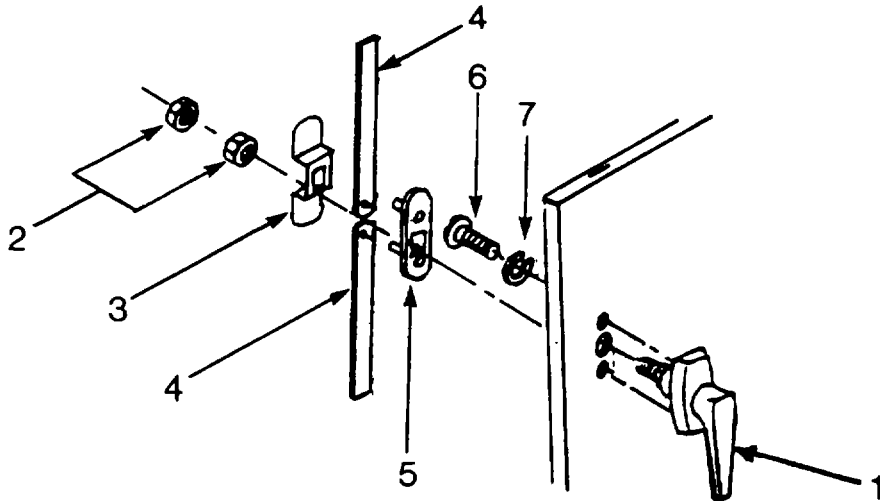

Figure 4-7. Water Supply Cabinet Assembly Handle
- (1) Remove water supply cabinet dents and straighten door and panels.
- (2) Repair breaks and separation of seams by minor welding.
- (3) Remove door handle assembly (1, Figure 4-7) by removing nuts (2) and retainer plate (3).
- (4) Remove rods (4) and backing plate (5).
- (5) Remove bolts (6), star washers (7), and door handle assembly (1).
- (6) Install replacement door handle assembly (1) and secure with star washers (7) and bolts (6).
- (7) Install backing plate (5), rods (4), retainer plate (3) and secure with nuts (2).